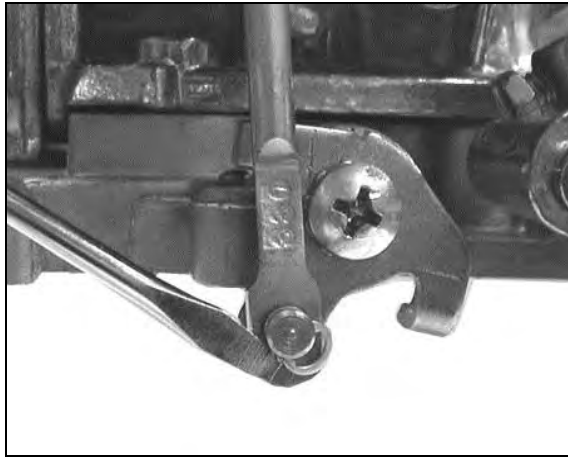

Figure 17
3. Remove the clip retaining the diaphragm plunger to the secondary throttle lever using a small flat-blade screwdriver (Figure 17).